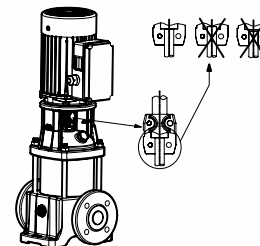

Fig. 17 Coupling adjustment SCR(N) 32, 45, 64, 90, 120, and 150
2. Fit the coupling on the shaft so that the top of the pump shaft is flush with the bottom of the clearance chamber in the coupling; see fig. 17.